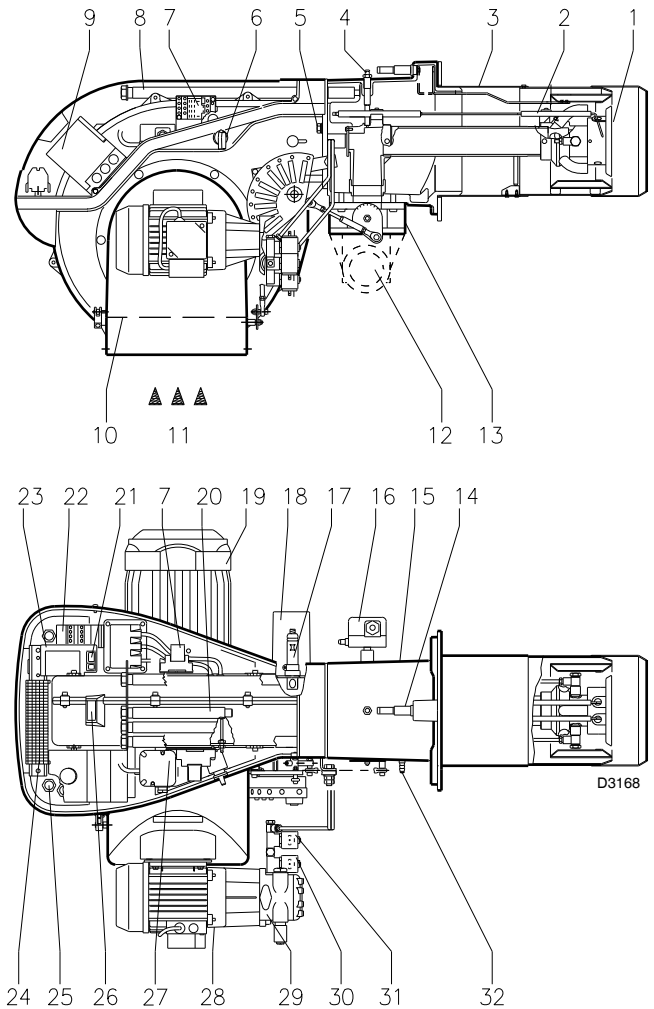

Fig. 6
- (1) Reference conditions: ambient temperature 20°C - Barometric pressure 1013 mbar - Altitude 0 m a.s.l.
(2) Pressure at test point 4)(Fig. 6 at page 12) with zero pressure in the combustion chamber and maximum burner output.
(3) Sound pressure measured in manufacturer's combustion laboratory, with burner operating on test boiler and at maximum rated output.
if the control box 9)(Fig. 6) pushbutton lights up, it indicates that the burner is in lock-out. To reset, press the pushbutton.
release by pressing the pushbutton on thermal relay 22)(Fig. 6).